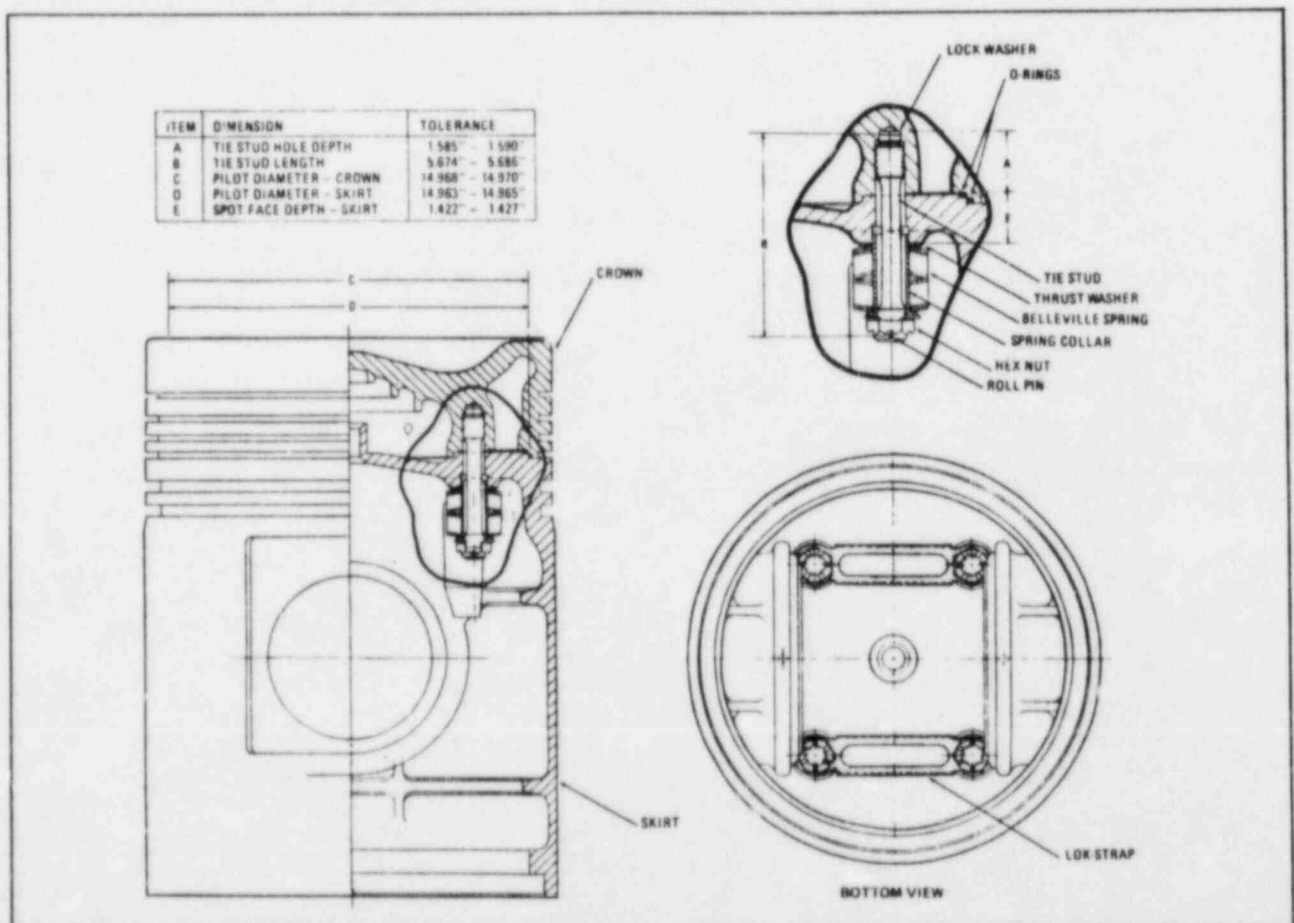

Figure 6-C-7. Piston Assembly
(1) Measure depth of crown stud holes. Measure from raised inner ring towards the center of the crown, not from the 0.007" deep relieved area. Must be within tolerances (A, Fig. 6-C-7).
- (2) Install a heavy spring lock washer in each of the four tie stud holes. Use Enterprise Part No. GA-002-091 washer (0.388" I.D., 0.691" O.D., 0.115" thick). Do not substitute.
- (3) Measure length of tie stud from lock washer end to centerline of roll pin hole (B, Fig. 6-C-7). Acceptable tie studs must be within tolerances.
- (4) Lubricate threads of tie studs (end opposite roll pin hole) with a 50-50 mixture of graphite and engine oil, and thread studs into holes in crown. Torque to 250 ft-lb.
- (5) Take a micrometer measurement of crown and skirt pilots (C, D, Fig. 6-C-7). Must be within tolerances to ensure ease of assembly without damage to O-rings.
- (6) Measure skirt spot face depth (E, Fig. 6-C-7). Should be within stated tolerances.
- (7) Install O-rings on skirt. Do not twist rings during installation. Use no adhesive, grease or solvent on rings. Mineral oil may be used to ease entry of O-rings into crown.
- (8) Assemble crown to skirt. Observe that there is a dowel pin in the crown which must enter the dowel hole in the skirt. Check O-rings for proper positioning.
- (9) Clean each Belleville spring and the spring collars by dipping them in solvent then thoroughly drying. Dip all springs and collars into a 50-50 mixture of graphite and engine oil, making sure washer faces are completely wetted.
- (10) Install thrust washer on each tie stud, then install exactly 13 Belleville springs on each stud, concave side towards skirt. Install 13 more Belleville springs on studs, concave side towards crown.
- (11) Install spring collars on each tie stud, then install two lok-straps as shown in Figure 6-C-7.
- (12) Apply Locktite to threads of studs, and assemble hex nuts to studs and tighten finger tight. Do not lubricate threads.
- (13) Align each washer stack with fingers so outer edge of washer stack is even. Torque each nut to 95 ft-lb, then back off three-quarter turn.
- (14) Retorque each nut to 85 ft-lb and check alignment of tie stud roll pin holes with nut slots. Increase torque as necessary to align roll pin holes with closest nut slot. Do not exceed 100 ft-lb.
- (15) Check for proper assembly. Roll pin hole in stud should be even with, or a maximum of 1/32" above base of nut slot. If within this tolerance, clean roll pin hole and install roll pin, using loktite. If not within tolerance, check assembly of parts for proper size and correct number of springs each way.
- (16) Bend lok-strap tabs up securely against side of nuts.